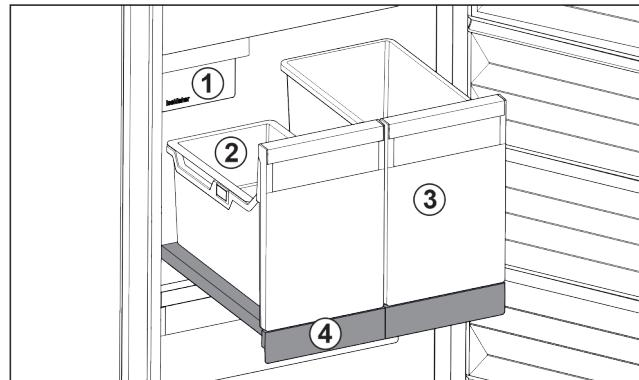

Fig. 95 Pull-out board with IceTower
There are two high (IceTower) containers on the pull-out board. Ice cubes from the IceMaker are collected and stored in the Fig. 95 (2) container. The container Fig. 95 (3) is suitable for storing tall foodstuffs or beverages such as pizzas or alcoholic drinks.